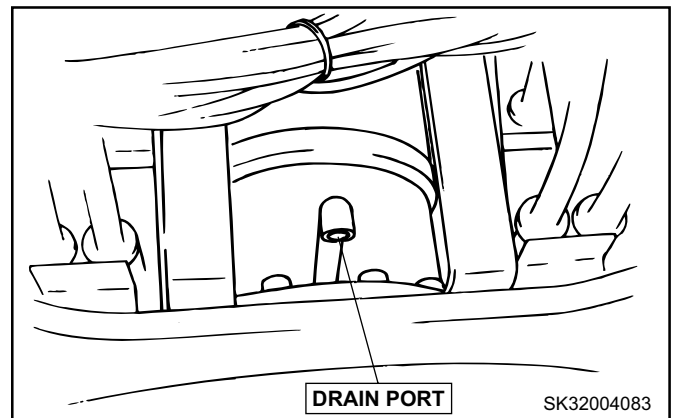

**FIGURE 4.42A**
5. Using the dipstick, confirm that the oil level is within the designated range. See Figure 4.42A.